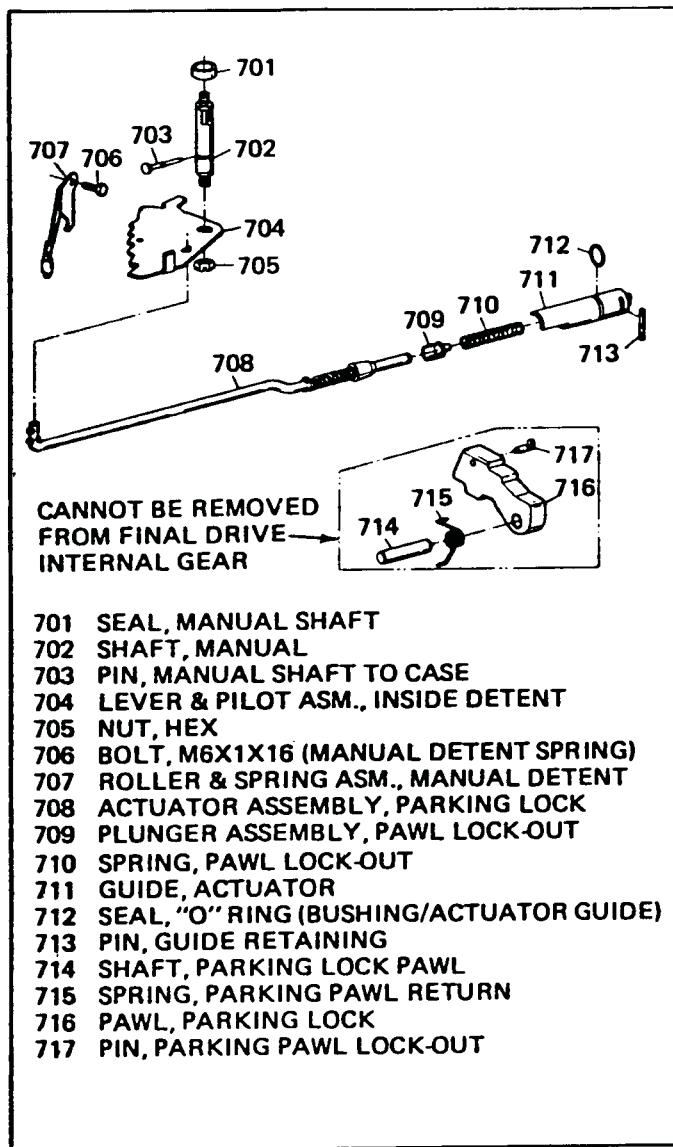

Figure 58
1. Remove "Nail" (703) from case. Refer to Figure 58.
5. Remove "Roll Pin" (713) from case. Refer to Figure 58.